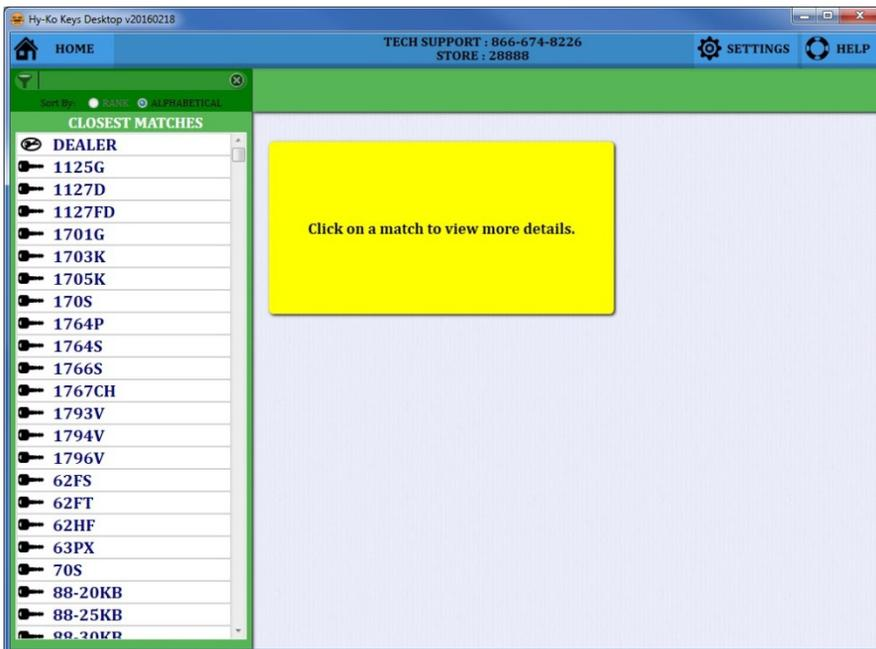

fig. 114
- The **'PART NUMBER LOOKUP'** app allows you to look up a key blank using any portion of a part number (see fig. 114).